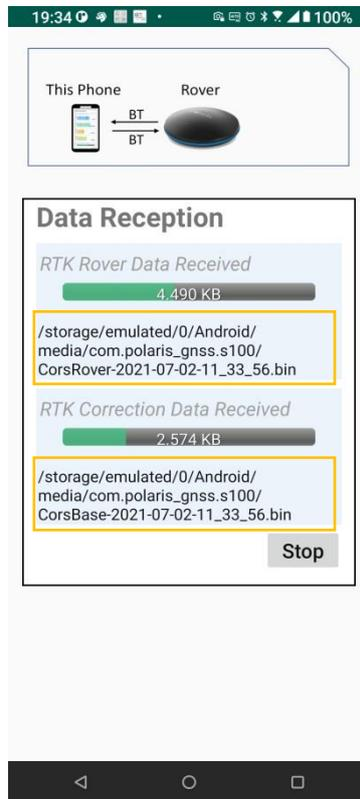

Figure A-12
4. Wait 15 minutes, to log 15 minutes of data for analysis. The saved files can be found in /Android/media/com.polaris_gnss.s100/ folder. See Figure A-12.